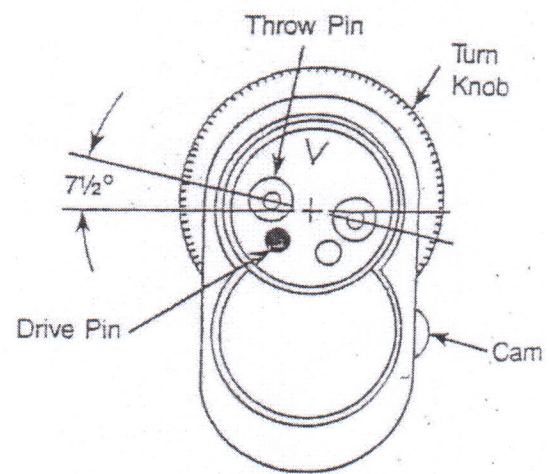

Fig. 1
- (1) Position cylinder with turn knob facing away and at top (Fig. 1). Looking into "figure 8" hole, identify throw plug with drive pin on left side and "v" mark at top.
- (2) Rotate throw pins fully clockwise with mortise tool ED211 or screwdriver. Then, rotate throw pins counter-clockwise about 2/3 turn until they are 7-1/2 degrees from horizontal position (Fig. 1) Cam must be positioned on right side of housing.